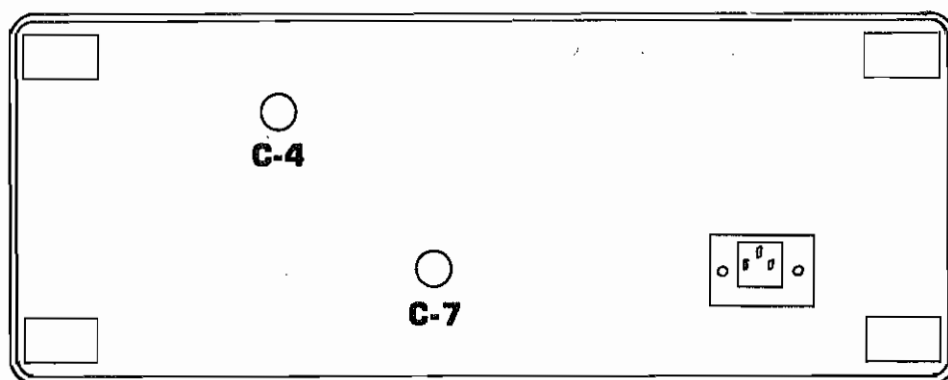

FIGURE 3
4. Adjust C4 through the access hole on the rear panel (see fig. 3 for location, remove hole caps) for phase correction and C7 through its rear panel access hole for oscillation stability in the pulse modes (20% and 50%).